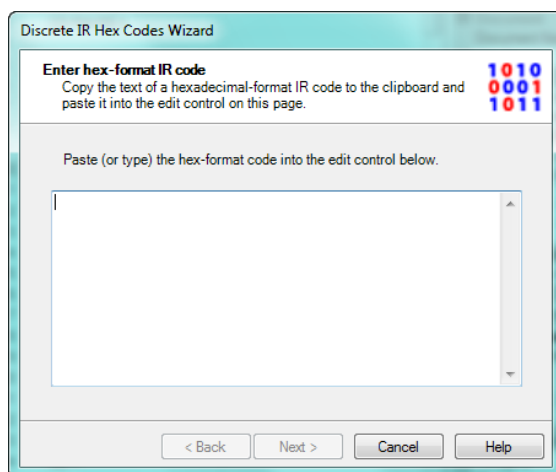

FIG. 32 Discrete IR Hex Codes Wizard - Enter Hex-Format IR Code dialog
2. Enter a function name in the text field and click **Next** to proceed to the *Enter hex format IR code* dialog (FIG. 32).